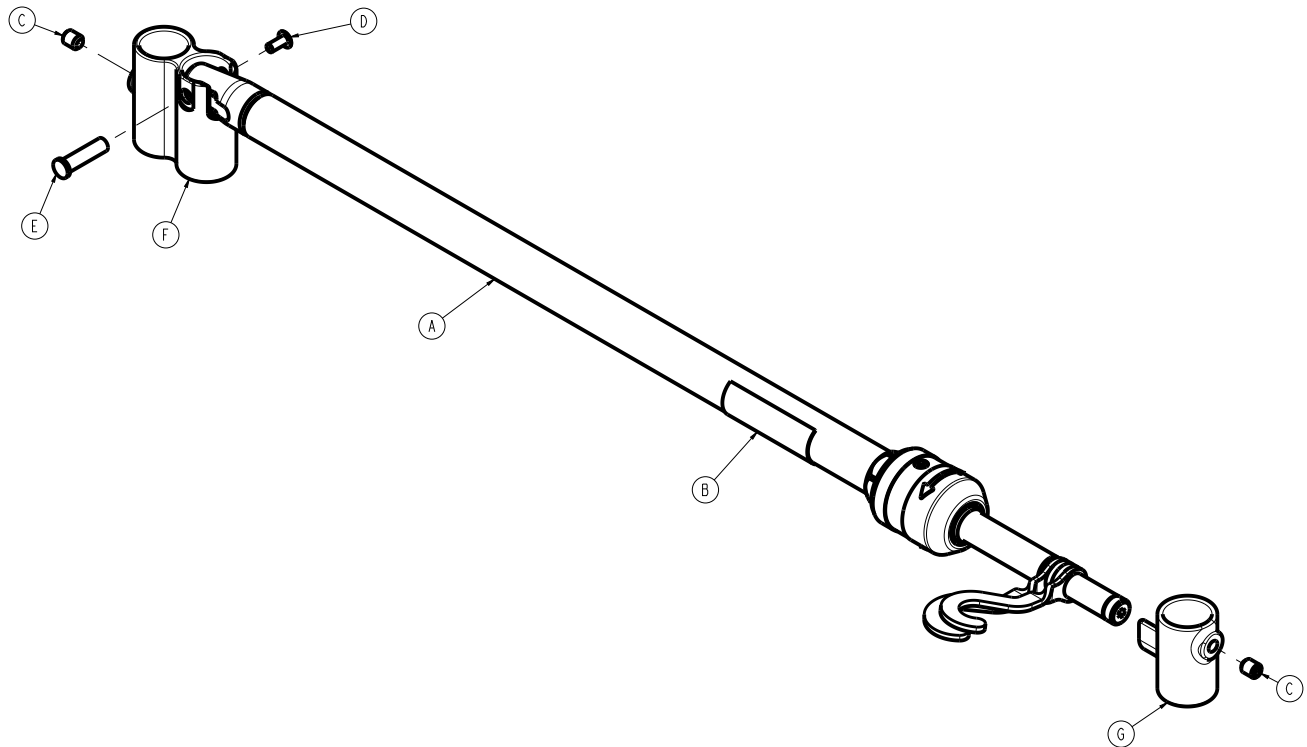

Figure 76 – Attaching the single IV pole
7. Using a 5/32" hex wrench, tighten the set screw (C) to secure the IV receptacle (F) to the bed IV post (Figure 76).